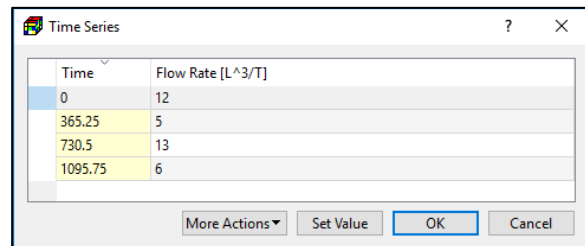

Figure 55. The Time Series dialog box
- **Time Series of Specified-Flow** or **Time Series of Specified-Head:** The Edit button is activated only if the Boundary Type is Specified-Head or Specified-Flow. Click the Edit button to open the Time Series dialog box (Figure 55) where you can edit an array of specified-flow or specified-head values for the current FHB1 cell instance. The features of the Time Series dialog box are as follows: